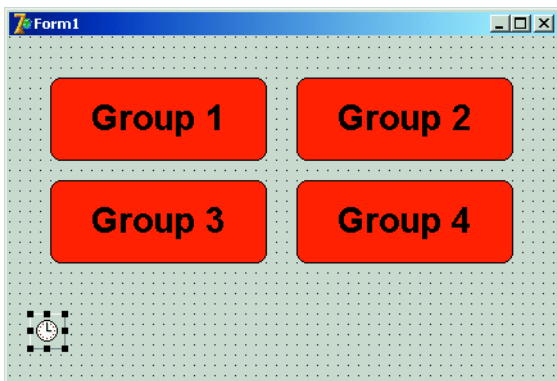

Figure 7. The Form with the components for the alarm program.
5. Add a Timer from the System tab to the Form so that the state of the alarm sensors can be checked periodically. The Form should now look similar to **Figure 7**.